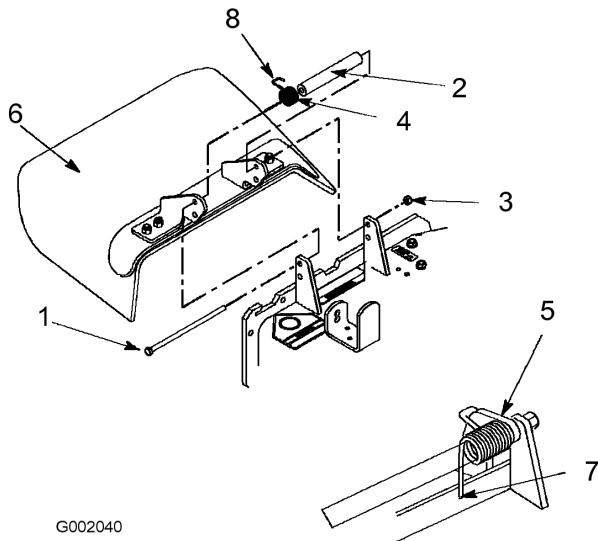

Figure 69
1. Remove the locknut, bolt, spring and spacer holding the deflector to the pivot brackets (Figure 69). Remove the damaged or worn grass deflector.
Note: Make sure the L end of the spring is installed behind the deck edge before installing the bolt as shown in Figure 69.
3. Install the bolt and nut. Place the **J** hook end of the spring around the grass deflector (Figure 69).